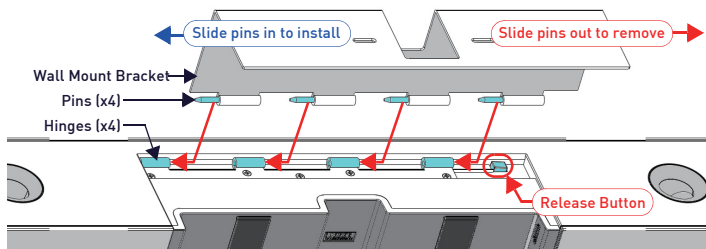

FIG. 3 ACV-5100 BOTTOM VIEW - REMOVING THE BRACKET
- Lift the Wall Mount Bracket off of the hinges to remove (FIG. 3):
- Attach the ACV-5100 to the Bracket by sliding the pins on the Bracket into the hinges on the rear of the main unit (see FIG. 3):
- Carefully slide the pins into the hinges, until the Bracket snaps into place. **Note:** Press the Bracket into place so that the last pin depresses the Release Button, allowing the pins to slide into the hinges (see FIG. 3)